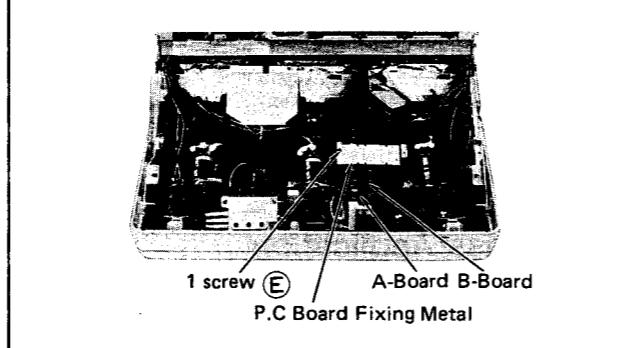

Fig. 6
- Remove a 1 screw **E** in fig. 6, and remove the P.C-Board fixing metal.